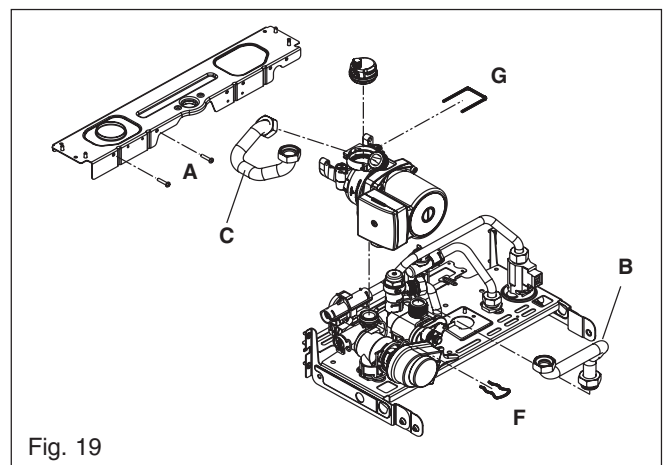

Fig. 19
6.5 PUMP ASSEMBLY fig. 19
- refer to fig. 19, disconnect and remove items A, B & C
6.7 AUTOMATIC AIR RELEASE VALVE fig. 19 (AAV)